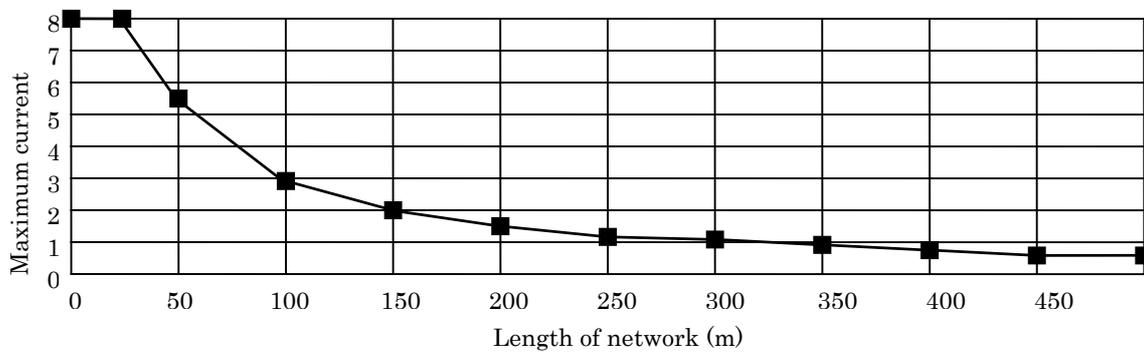

Figure 12.1 Maximum current capacity (thick cable)
3. Calculate the maximum current capacity corresponding to the network distance and the cable type used. See Figures 12.1 and 12.2 for how to calculate it.
Maximum allowable current value = 1.03 A (from Figure 12.1)
Maximum allowable current value of section 1 = 2.01 A (from Figure 12.1)
Maximum allowable current value of section 2 = 2.01 A (from Figure 12.1)